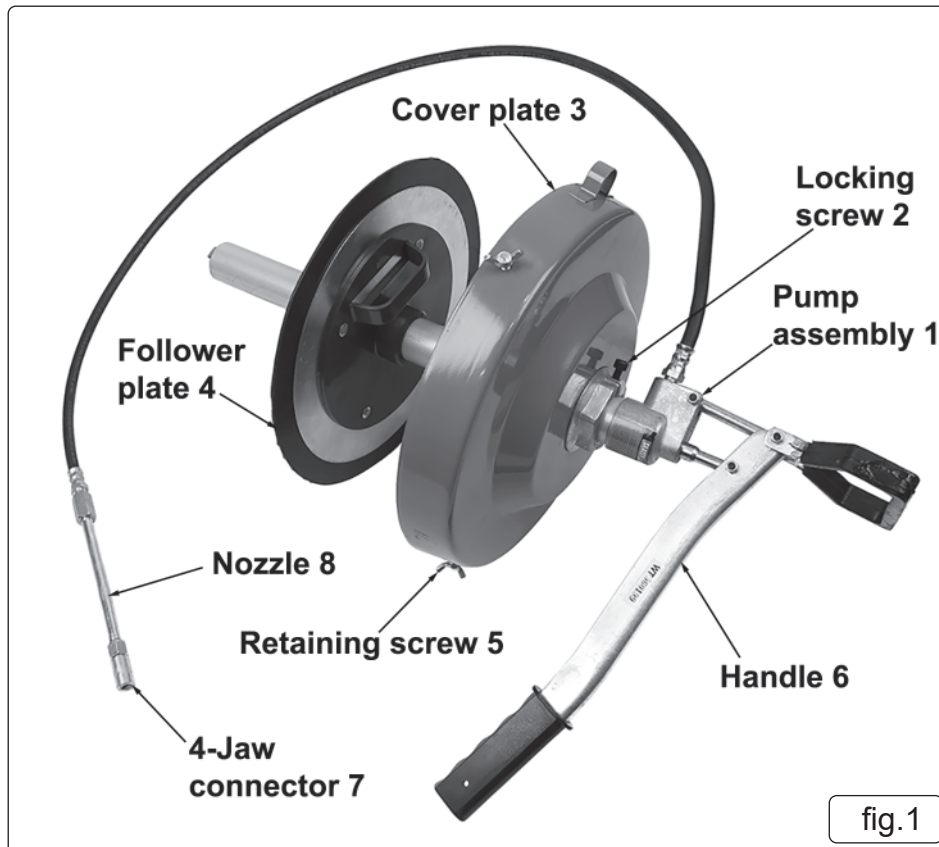

fig.1
- 4.1. Insert pump assembly (fig 1 - 1) through cover plate (fig 1 - 3) and secure in required position by tightening locking screw (fig 1 - 2).
- 4.3.1. Remove the lid from the container and push the follower plate (fig 1 - 4) into the grease, handle side uppermost, until a small quantity of grease appears through the central aperture.
- 4.3.2. Install the pre-assembled pump unit and drum cover through the central aperture of the follower plate and onto the grease container until it seats firmly and secure with the 3 retaining thumb screws (fig 1 - 6).
- 5.1. Prime unit by operating handle (fig 1 -6) slowly until grease emerges from end of hydraulic connector (fig 1 - 7), (approx 20-25 operations).
- WARNING!** The 4 -jaw hydraulic connector (fig 1 - 7) is an integral part of the angle tube (fig 1 - 8) nozzle end. If jaws need to be replaced care must be taken when unscrewing end as jaws are tensioned with a strong spring.